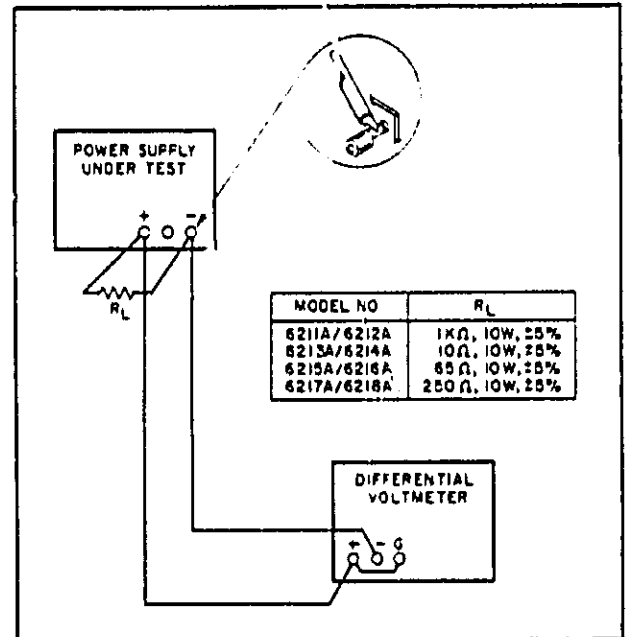

Figure 5-3. CV Load Regulation, Test Setup
- a. Connect load resistor (R_L), indicated in Figure 5-3, across the output terminals of supply.
- a. Connect test setup as shown in Figure 5-3.
- b. Connect test setup shown in Figure 5-3.
a. Connect the load resistance, attenuator, and differential voltmeter as illustrated in Figure 5-3.